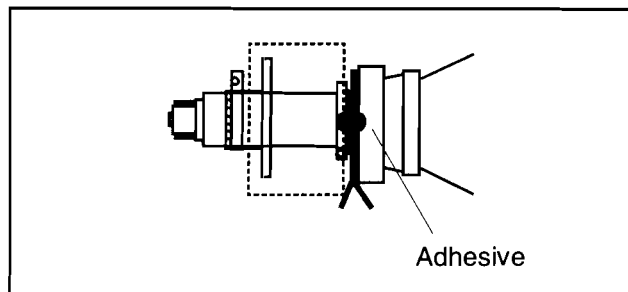

Figure 21. Adhesive Removal
3. Remove adhesive from centering tabs and set centering tabs for zero correction. (Figure 21)